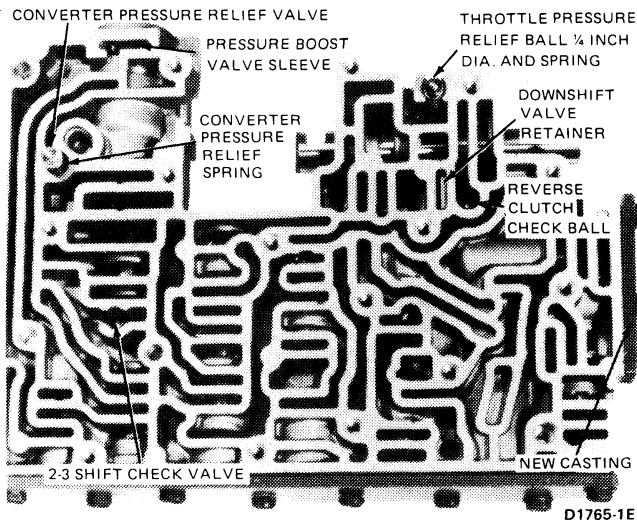

FIG. 23 Converter Pressure Relief Valve, Throttle Pressure Relief Valve, and 2-3 Shift Check Valve Locations
2. Place the downshift valve and spring in the valve body. Compress the spring and install the retainer from the underside of the body (Fig. 23).
3. Place the valve body on a clean surface with the passage side facing up. Place the converter relief valve spring in its bore (Fig. 23). Coat the converter
relief valve check valve with petroleum jelly and place it on top of the spring. Place the 2-3 shift check valve ball in its cavity. Place the throttle pressure relief valve spring in its bore (Fig. 23). Coat the throttle pressure relief valve check ball with petroleum jelly and place it on top of the spring.